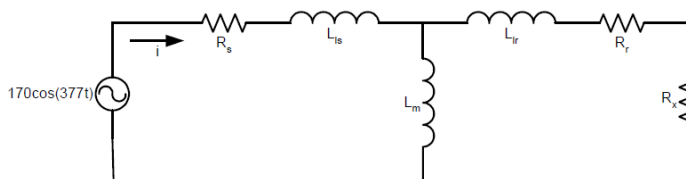

Figure 4.1 A Circuit model for one phase of an induction motor being driven by the utility
7. Figure 4.1 shows a circuit model for the utility supplying one phase of an ac induction motor. The motor system parameters are $R_s = 0.08 \Omega$, $L_{ls} = 1 \text{ mH}$, $L_m = 40 \text{ mH}$, $L_{lr} = 1 \text{ mH}$, $R_r = 0.1 \Omega$, and $R_x = 33 \Omega$. If the utility voltage is $170 \cdot \cos(377t)$, i) what is the current into the motor? and ii) At what power factor is the motor operating?